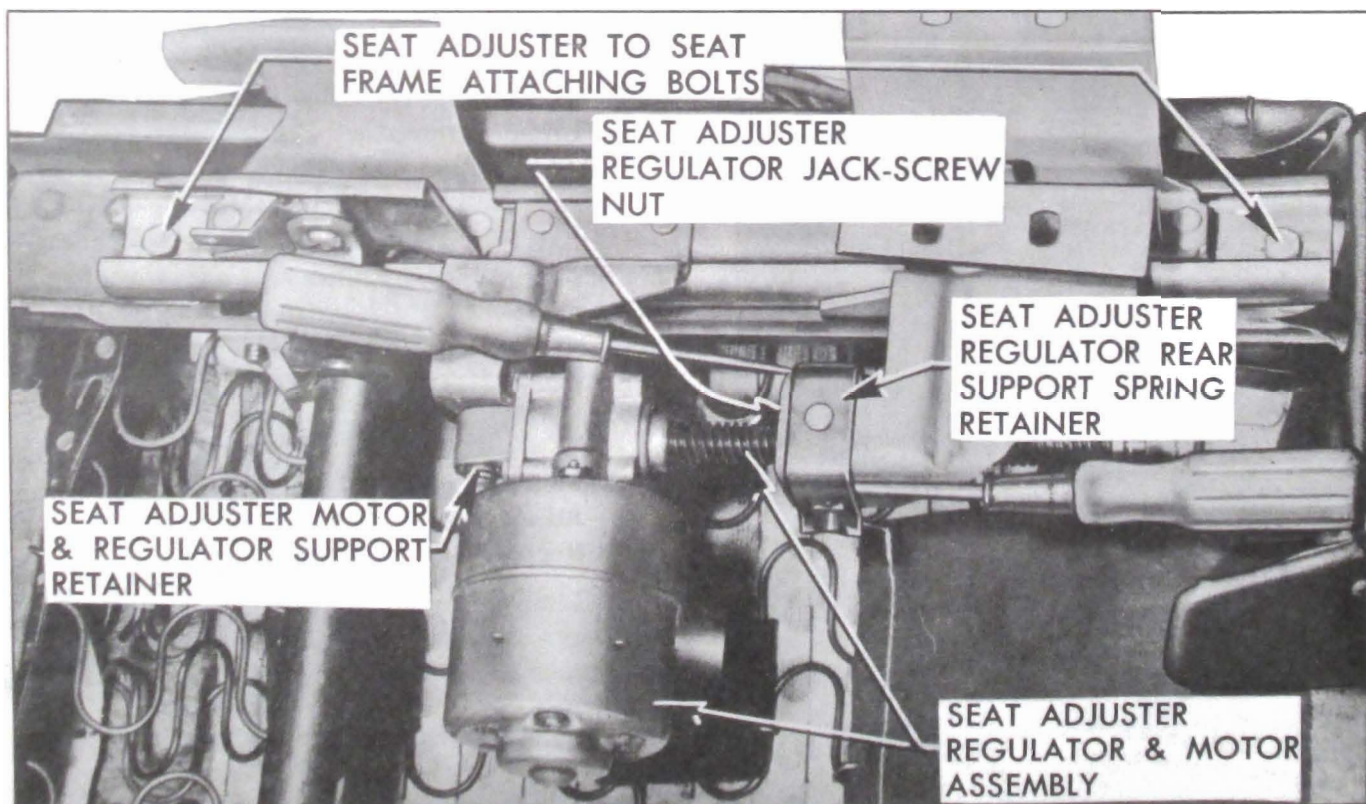

Figure 13-79—Horizontal Power Seat Regulator
4. Using a screw driver, or other suitable tool pry open seat adjuster regulator rear support spring retainer sufficiently to disengage jack screw nut from support. See Figure 13-79.
5. Remove seat adjuster motor and regulator support retainer, Figure 13-79, then remove regulator assembly from support pin and remove assembly from seat.
3. Remove seat adjuster-to-seat frame front and rear attaching bolts, Fig. 13-79.